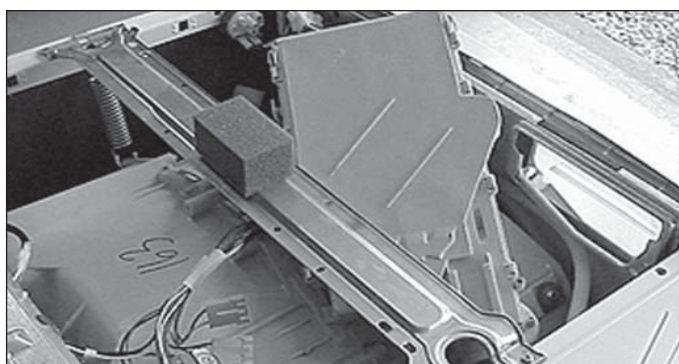

Figure 4-68.
10. Push down on the tub and swing the front of the housing toward the center of the washer. Work the housing out from under the center brace and lift the housing out. (See Figure 4-68)